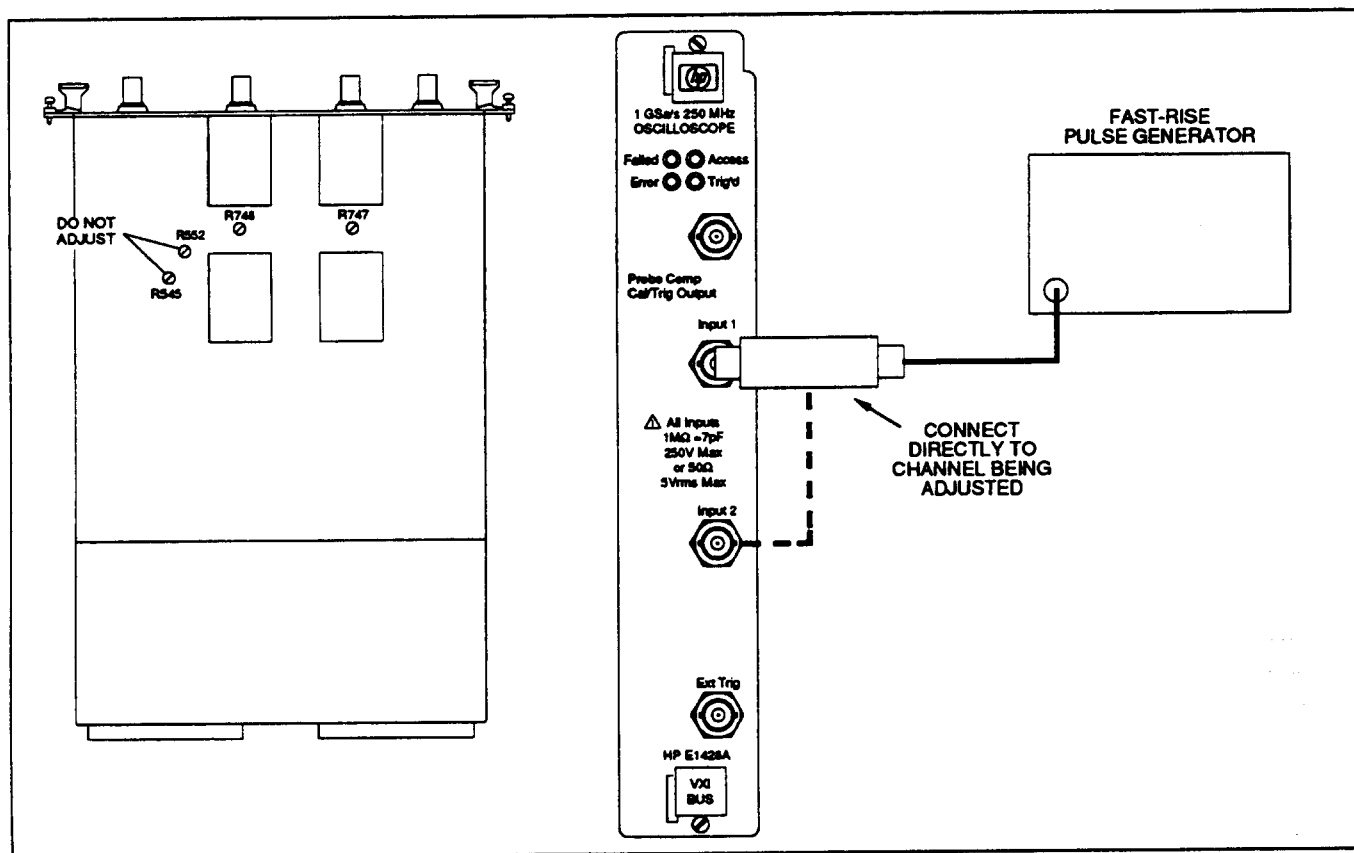

Figure 5-5. High Frequency Pulse Adjustment Setup
1. Remove the oscilloscope right side cover by removing eight Torx screws and loosening the four front panel BNC connector nuts. Locate the following adjustments (see Figure 5-5).
2. Connect the equipment as shown in Figure 5-5. Pulse Generator output is connected to the Input connector of the channel that is being adjusted using an SMA-BNC adapter (see table 1-1).